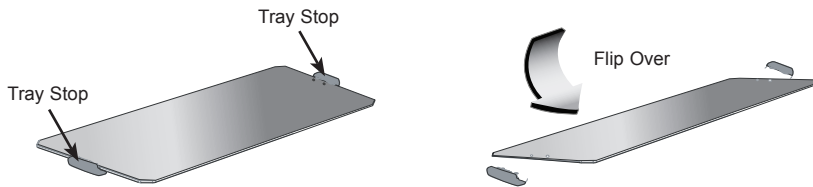

Figure 1
- Remove the screws from the Tray Stops using a Philips screwdriver (Figure 1). Once both Stops are removed, flip the Tray over and replace the Tray Stops and screws.
Sliding Tray needs to be turned over. See Turning the Sliding Tray (Figure 1).